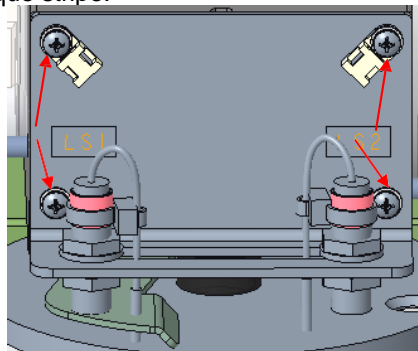

Figure 7: Screws to remove Bracket from Operator
- H.8. From the OLD operator, remove 4 screws, washers & harness clips that mount Bracket for Prox Sensors to Operator, as shown in Figures 7 & 8. Install the bracket with the sensor assemblies to the NEW operator and torque screws to 22 IN-LBS. Apply torque stripe.